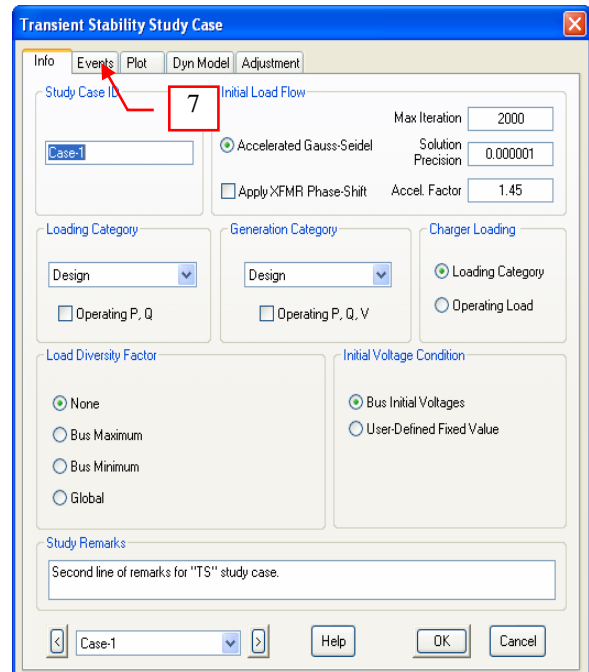

Fig. 3
7. The “Transient Stability Study Case” dialog box will be displayed as shown in Fig. 3. Click the “Events” Tab.